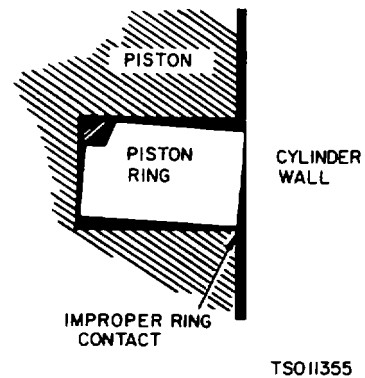

Figure 6-22. New Ring in Worn Piston Ring Groove
(4) Check for excessive ring side clearance or improper width rings. These can result in ring breakage. New rings in worn ring grooves will not have good cylinder wall contact. (See figure 6-22.)
(5) Check for pistons showing signs of bad scoring or burring, excessive skirt clearance, wavy or worn ring lands, fracture or damage from detonation. Replace piston pins showing fractures, scored bores, or bores out of round more than 0.002-inch.
(6) Use a new piston pin to check the pin bushing in the connecting rod for wear. Clearance of piston pin in rod should be 0.0001 to 0.0006.